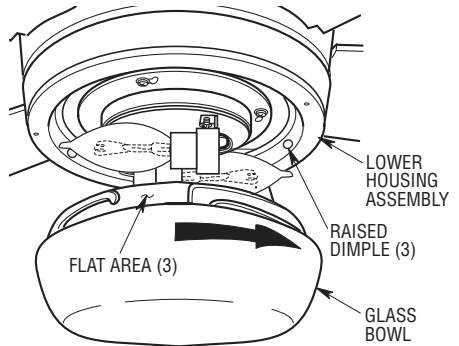

Figure 17
- 7. Place the glass bowl into the opening in the lower housing assembly, aligning the three flat areas on the top edge of the glass with the three raised dimples on the lower housing assembly and turn the glass bowl clockwise until it stops (Figure 17).